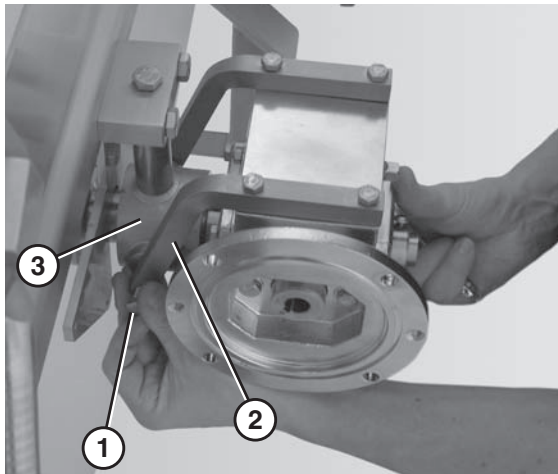

Figure 64
10. Remove the bolts (**Figure 64, item 1**) that connect the bent bars (**Figure 64, item 2**) to the drive mounting bracket (**Figure 64, item 3**).